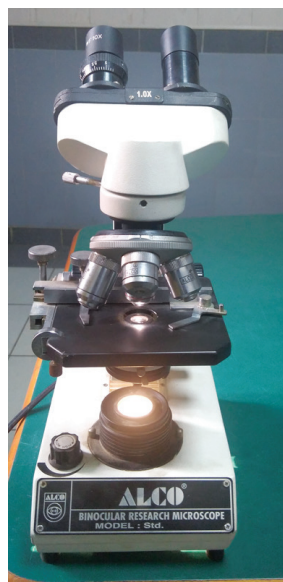

Fig. 1.3: Monocular compound microscope (front view)
- i. **Light:** The source of light may be external or internal, i.e. light is attached with microscope itself (Fig. 1.3).